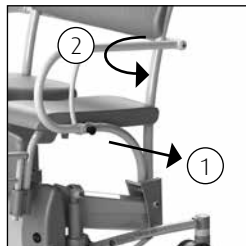

Figure 6 Armsteun.
- The safety catch is pulled outwards to unlock the armrest (1) (See figure 6).
- The armrest can now easily be turned to the back (2) (See figures 6 & 7).